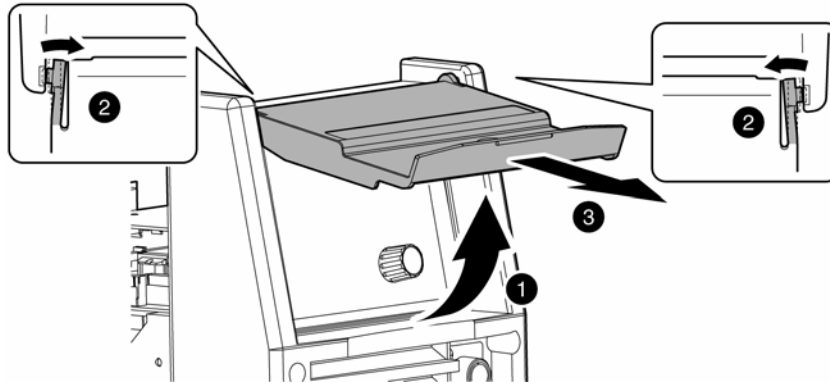

Figure 11. VRD ON/OFF Step A
- a) Remove the clear plastic cover from the control panel. (see Figure 11)